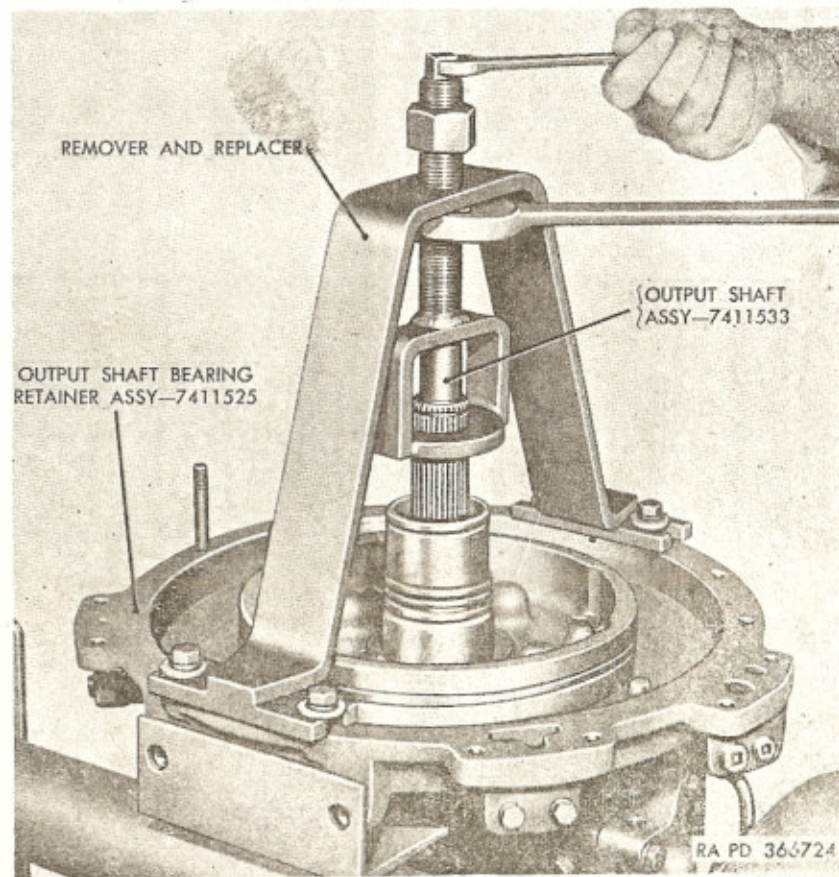

Figure 31. Removing output shaft bearing retainer assembly using remover and replacer—C7950563 (303M).
c. Position rear bearing retainer remover and replacer—C7950563 with center screw section over transmission output shaft so that the main body of the remover contacts rear of the output shaft bearing retainer. Align the four slots of the remover with the four tapped holes in the bearing retainer assembly (fig. 31) diagonally opposite the output shaft.